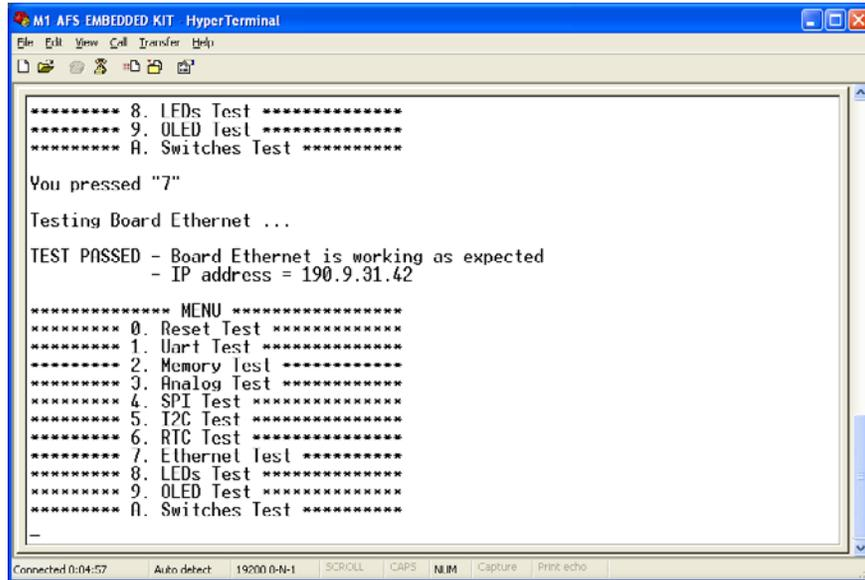

Figure 2-9 · Ethernet Test Results
- Enter '7' into the terminal to begin the ethernet test. If successful, the test results appear on the screen (Figure 2-9).
Note: The IP address of your board can be different from the one shown in Figure 2-9.